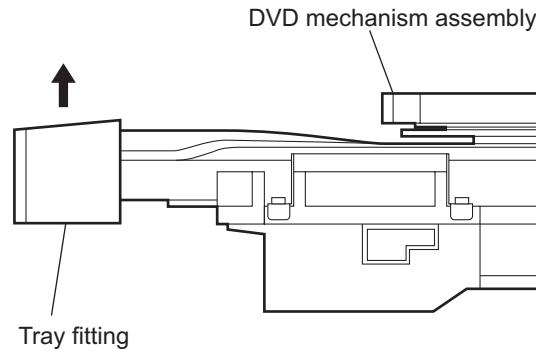

Fig.13
(4) From the inside of the main body, take out the DVD mechanism assembly.
(5) Remove the tray fitting from the DVD mechanism assembly in the direction of the arrow. (See Fig.13.)